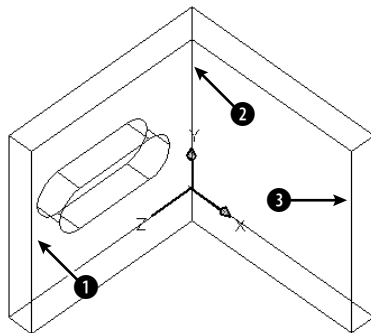
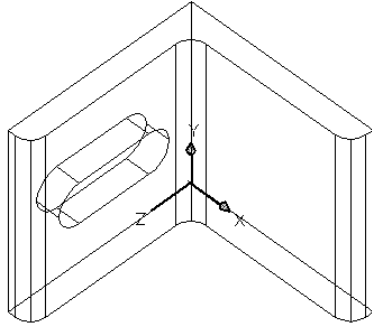

Figure 24-35: The mounting angle needs filleting.
Figure 24-36: The filleted mounting angle.
2. Save the file as `ab24-11.dwg` in your AutoCAD Bible folder. This is a solid model of a mounting angle, as shown in Figure 24-35. It needs to be filleted.
4. At the `Select first object or [Undo/Polyline/Radius/Trim/Multiple]: prompt`, pick the edge at ❶ in Figure 24-35.
6. At the `Select an edge or [Chain/Radius]: prompt`, pick ❷.
8. Save your drawing. It should look like Figure 24-36.
You can move a face when a solid is complex enough to have at least two separate elements — for example, a plate with a hole in it. You can then move the hole around wherever you want. Look at the mounting bracket in Figure 24-36, earlier in this chapter. You could move the hole from the left face to the right face using SOLIDEDIT. To move a face, follow these steps: